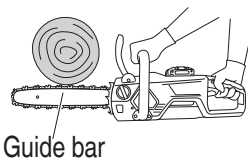

Fig. 24
- (5) When cutting into wood from the bottom, touch the upper part of the guide bar to the wood lightly. **(Fig. 24)**
- (6) As well as carefully studying the handling instructions, ensure practical instruction in the operation of the chain saw prior to use, or at least practice working with the chain saw by cutting lengths of round timber on a sawing trestle.
- (7) When cutting logs or timbers which are not supported, support them properly by immobilizing them during cutting using a sawing trestle or other proper method.